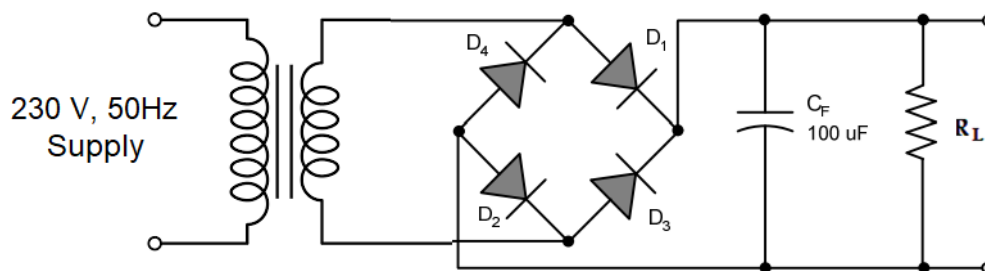

Figure 2: Bridge Rectifier with capacitive filter
1. Connect the circuit as shown in Figure 2 without capacitor.